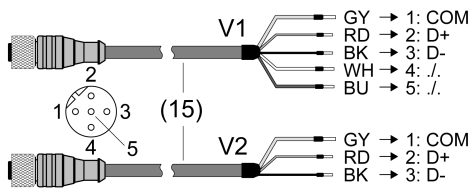

Figure 5: Connecting cable V1 and V2
- Due to a technical revision two different types of connecting cables might be included in delivery under art.-no. il LTGDAL... (Figure 5).